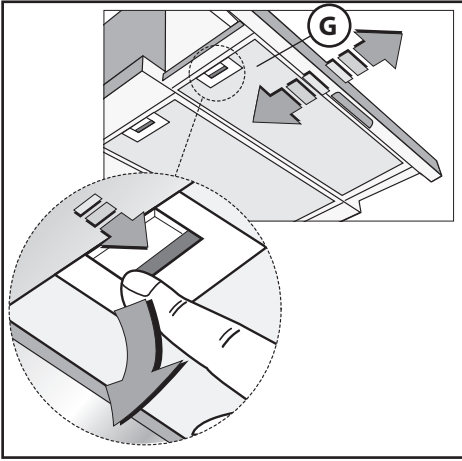

Fig.10
• If the cooker hood is installed above a glass ceramic or induction hob, the minimum distance between the hob and the hood is **55cm**. For gas stoves the minimum distance is **65cm**. If a connection tube composed of two parts is used, the upper part must be placed outside the lower part. Do not connect the cooker hood exhaust to the same conductor used to circulate hot air or for evacuating fumes from other appliances generated by other than an electrical source. Before proceeding with the assembly operations, remove the anti-grease filter(s) (Fig.10) so that the unit is easier to handle.